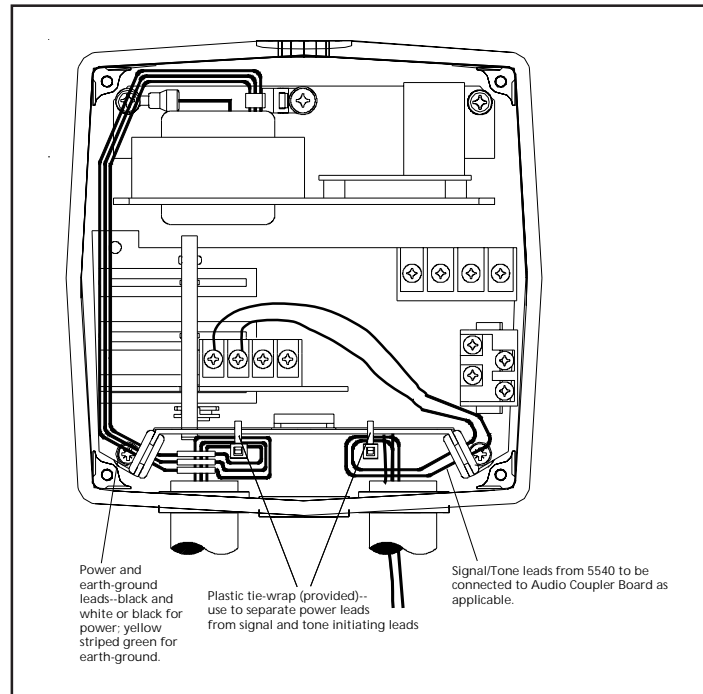

Figure 3. Wiring the Adaptatone
- Install wires through a knockout hole in the bottom of the box from a raceway that is, with its connections to the 1/2" (12.7 mm) conduit knockout hole, approved for the same degree of protection and enclosure type needed by the application. Use the provided plastic tie-wrap, on the barrier to the electronics, to separate incoming power leads from signal and tone initiating leads, per NEC (Figure 3).